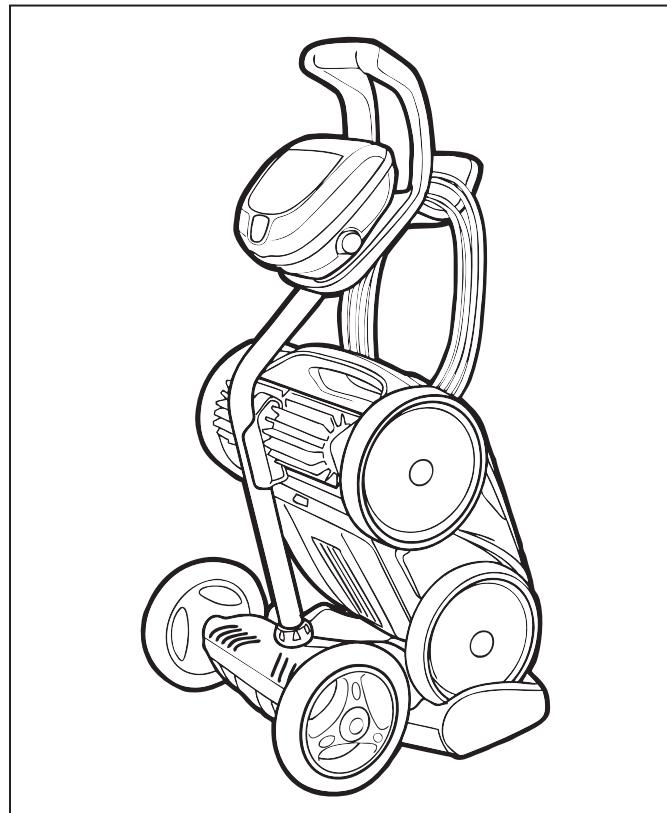

Figure 19. Cleaner Correctly Stored on Caddy
- Place cleaner in vertical position on the caddy base and clip to hook (Figure 19).
- Loosely coil the power cable starting at the cleaner and moving toward the connection point at control unit. Remove any twists along the way. Store the cable by wrapping it around the hook located on the front of the caddy (Figure 19).